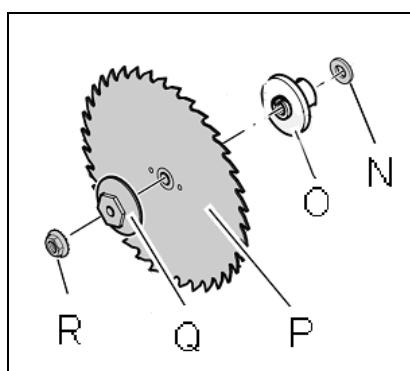

Fig 16
Remove the arbor nut (R, Fig 16) and flange (Q).